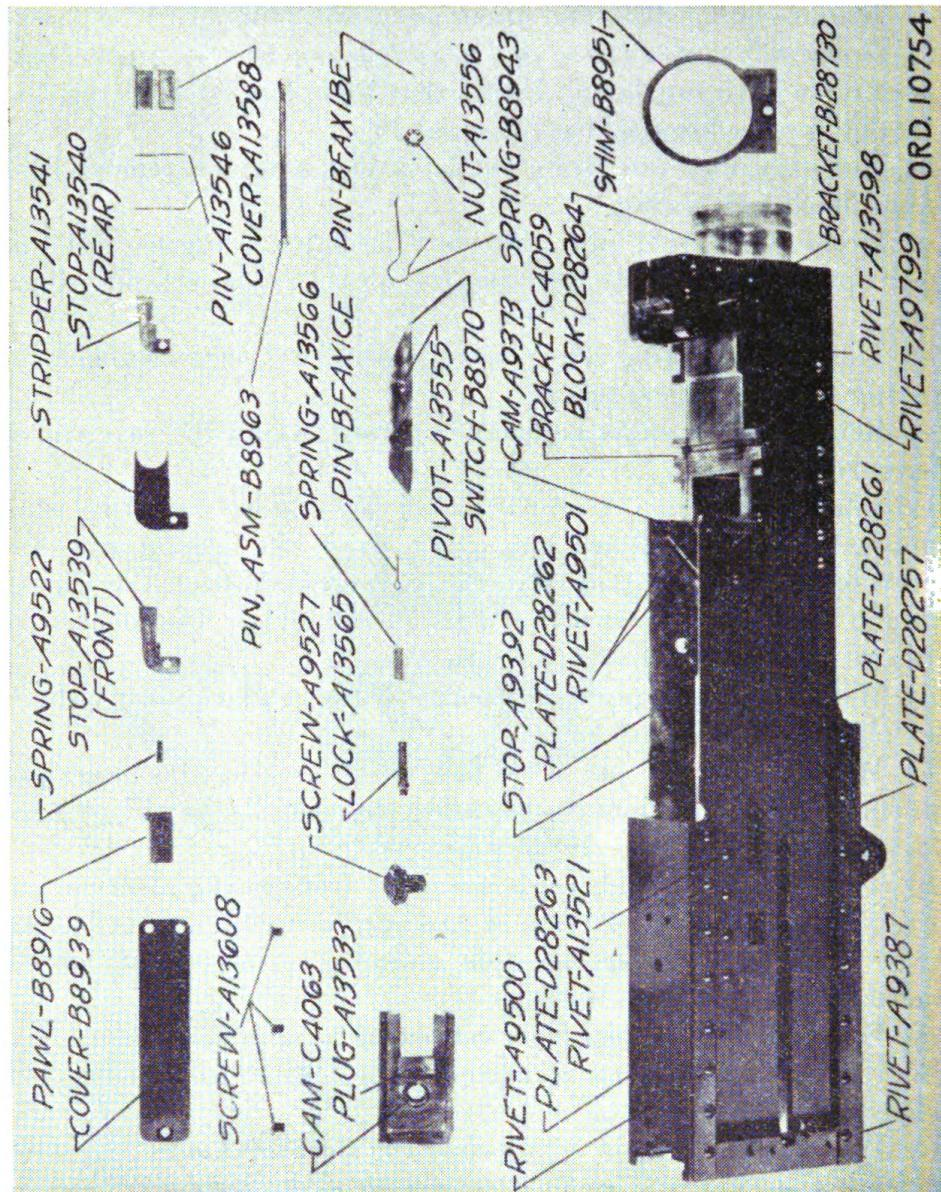
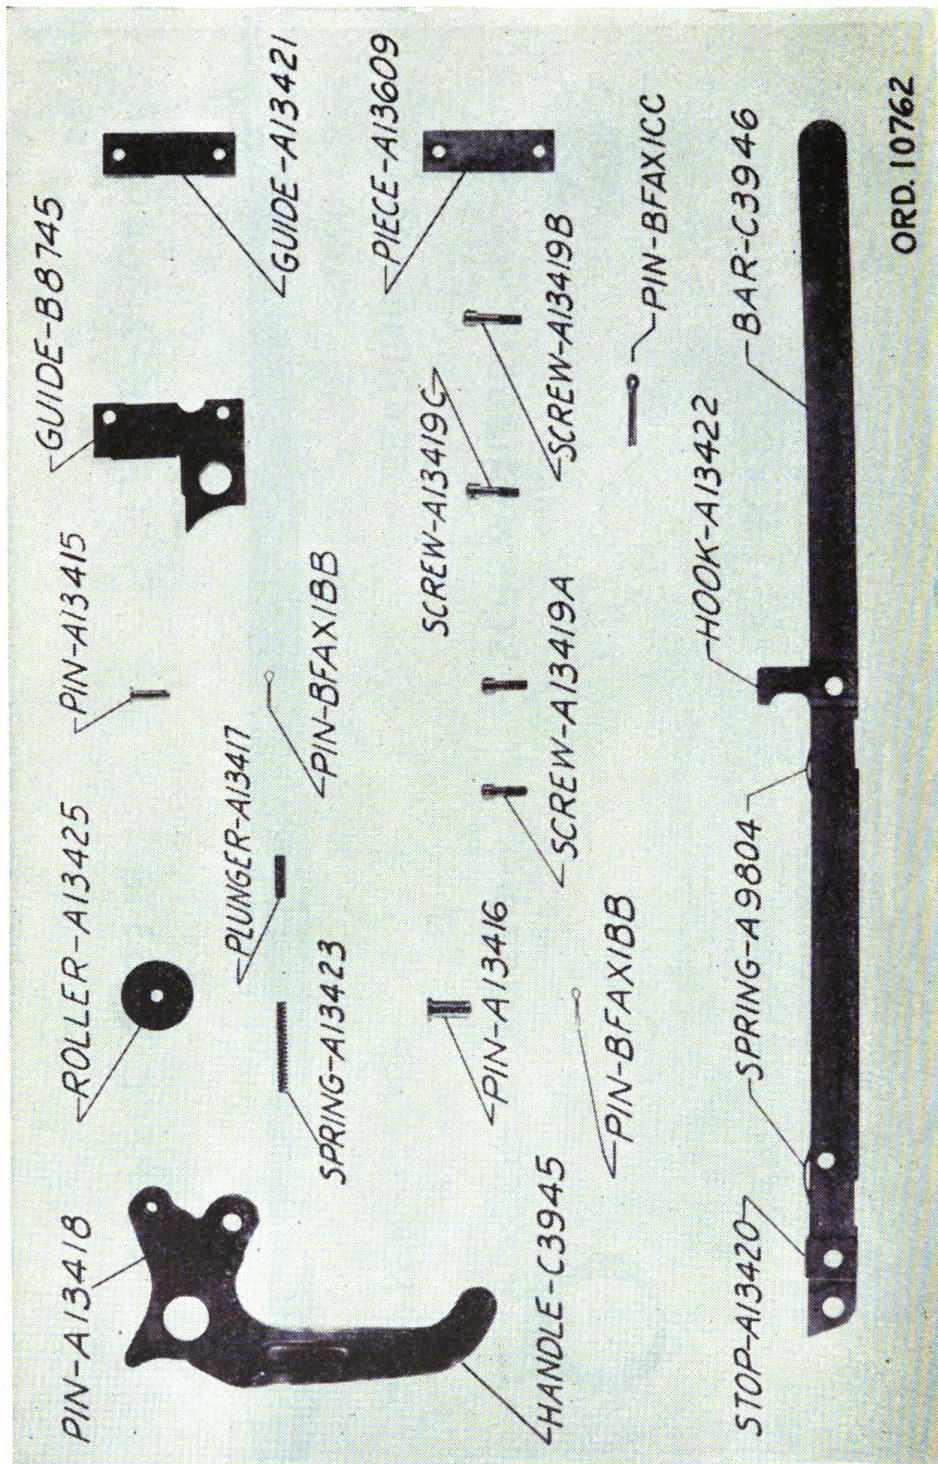

FIGURE 8.—Casing group.
FIGURE 10.—Operating slide group (fixed gun).
f. *Casing group* (figs. 8 and 9).—(1) To remove operating slide assembly from casing (fixed gun only), draw out locking wire and unscrew operating slide guide screws. Lift off operating slide guides, front and rear. This frees operating slide assembly. Components of the operating slide are shown in figure 10.